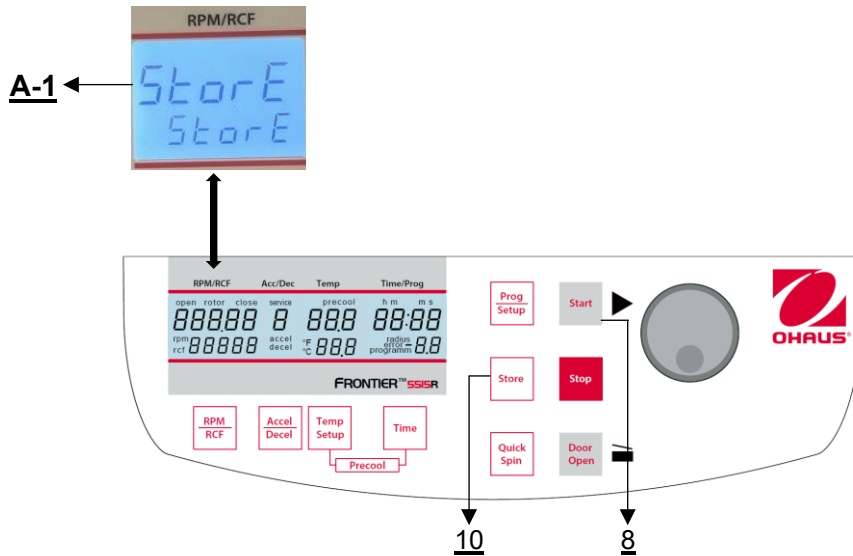

Figure 30
All changed settings must be confirmed by the key **"Start"**(8) or **"Store"** (10). The word **"Store"** appears in the display **"RPM | RCF"** (A-1) – Only then the pre-selections are valid (see Figure 30). After you have stored the settings, you can change to normal program mode again by switching off the centrifuge for a short while.